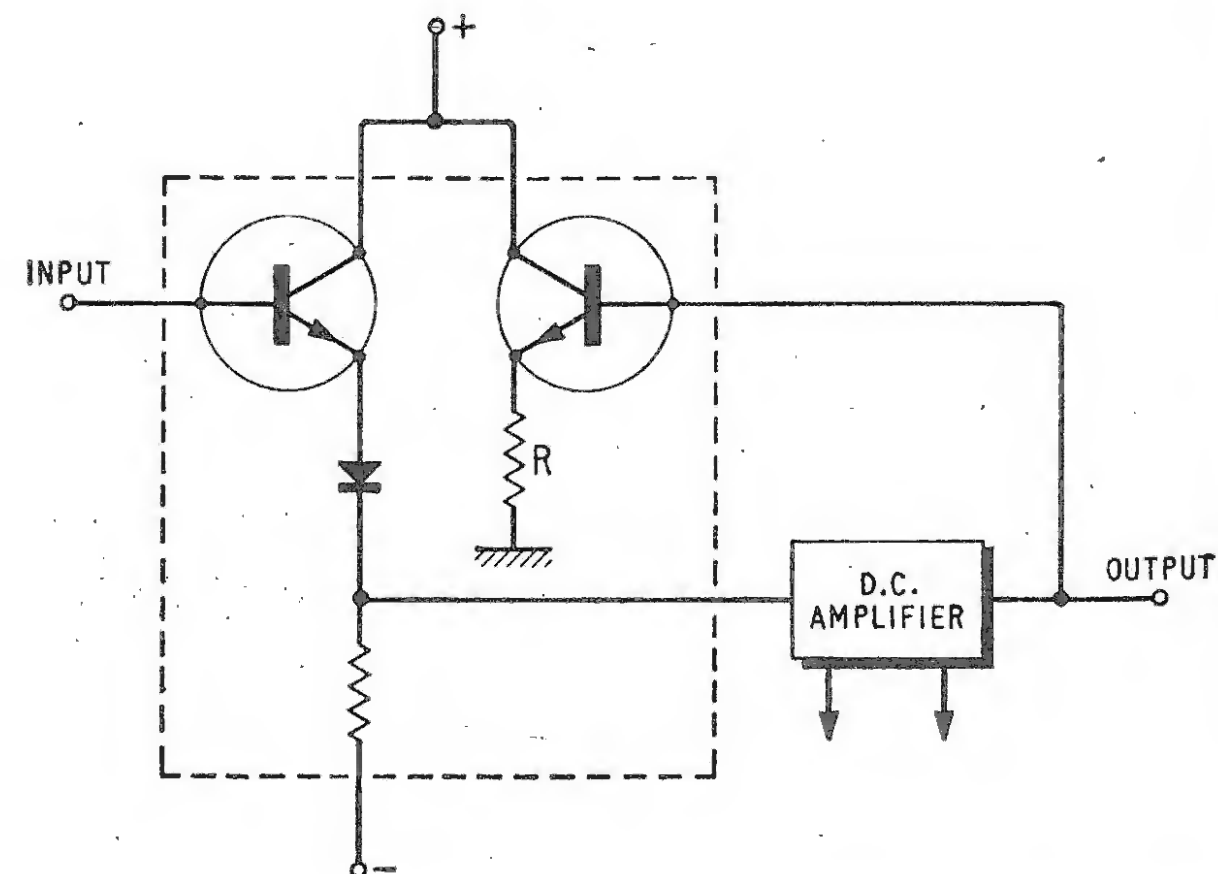

Fig. 2. Basic arrangement of one of the feedback stages, the box enclosing the thermal feedback elements.
The heater component is the emitter resistor (R) of an emitter follower which is fed from the output of the d.c. amplifiers (see Fig. 2). The sensing element, on the same silicon substrate, consists of two negative temperature coefficient diodes, one being the base-emitter junction of an emitter follower for convenience (on left of Fig. 2).